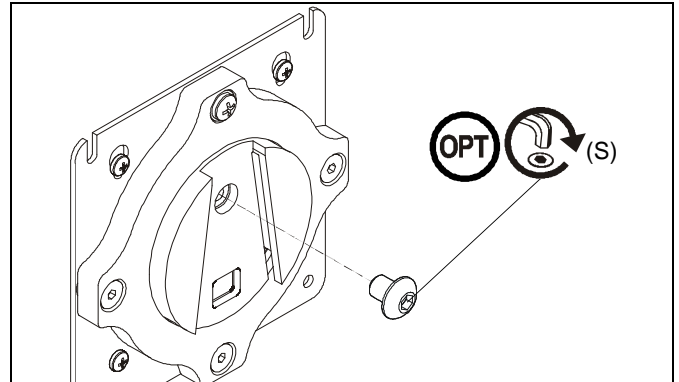

Figure 20
**NOTE:** (Optional) Rotational adjustment may be locked by installing rotational locking screw (S) into back of faceplate. (See Figure 20)